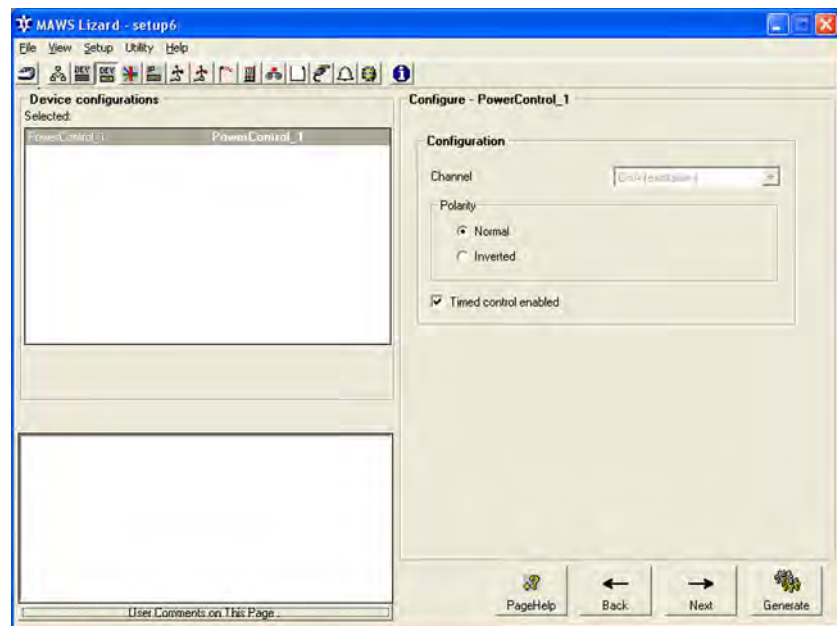

Figure 102 Device Configurations View: Configuring Power Control Option
4. Proceed to the **Device configurations** view, as shown in Figure 102 on page 201, and configure the polarity and timed-control options.